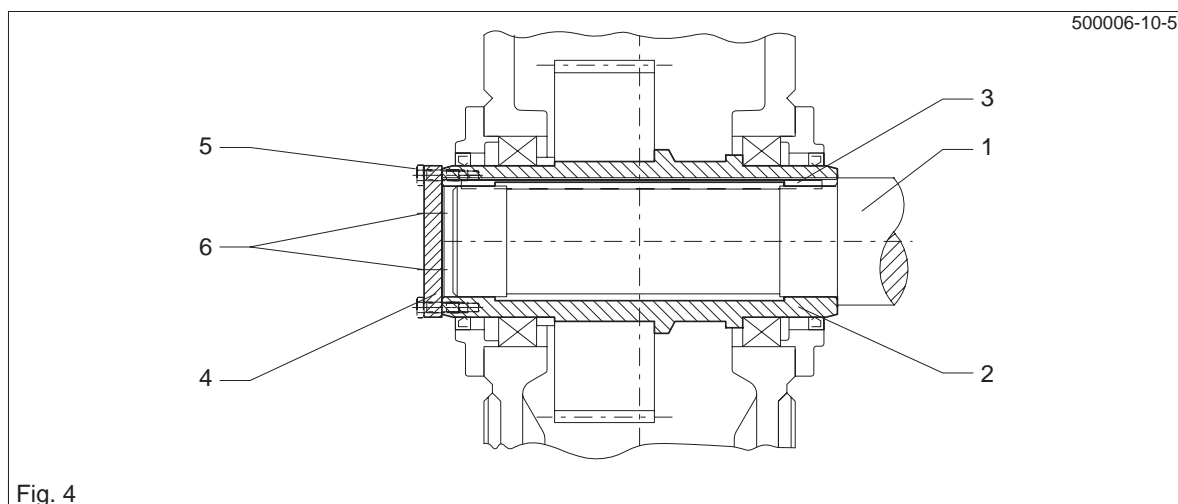

Fig. 4
- Depending on the facilities available on site, the gear unit can be forced off the machine shaft using forcing screws in an end plate (see fig. 4), a central threaded spindle or preferably a Lucas hydraulic lifting unit.